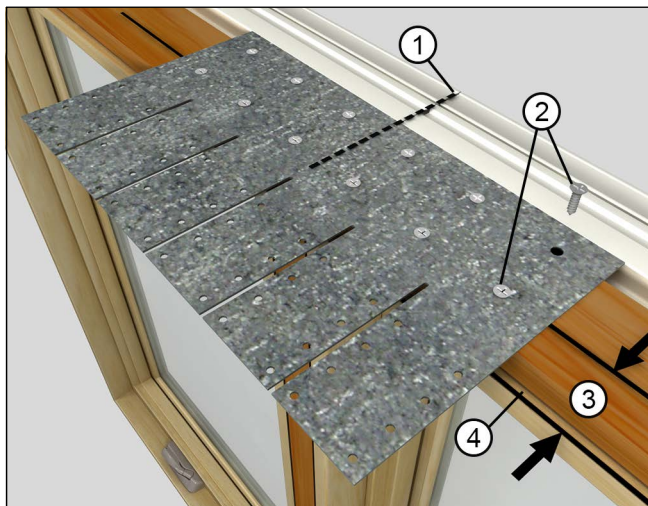

Figure 14
1. Center mull brackets on top of filler board at mullion joints with the interior most screw hole no more than 1 1/8" from the interior edge of the frame. Attach the mull bracket with the #7 x 5/8" screws provided. See Figure 14.